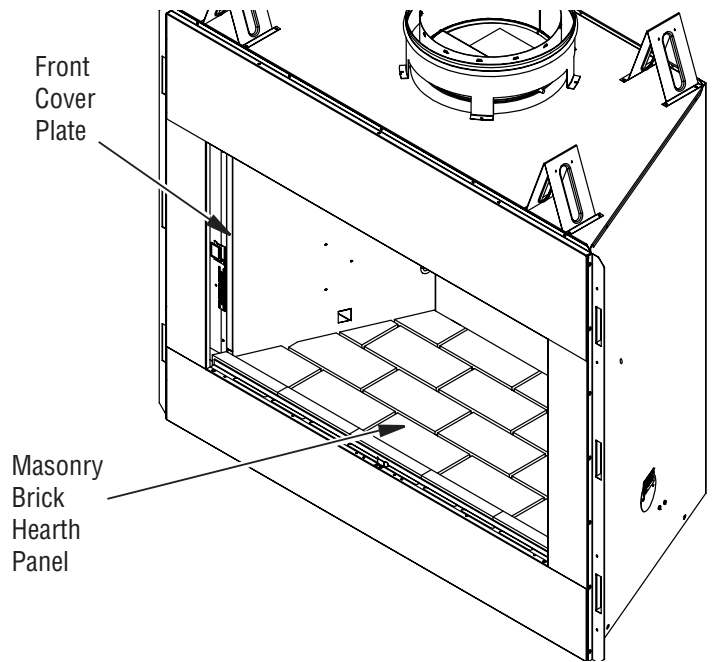

Figure 36 - Hearth Brick Panel
1. Make sure masonry brick hearth panel is centered in the firebox and flush with the front of the fireplace. Be careful not to pinch your fingers between the panel and firebox (Figure 36). **Note:** If replacing entire kit, start with the masonry brick hearth panel, then follow steps below.
2. Install the left and right masonry brick panels, align flush with front cover plates and secure them with retaining brackets and screws (provided), see Figures 36 and 37.